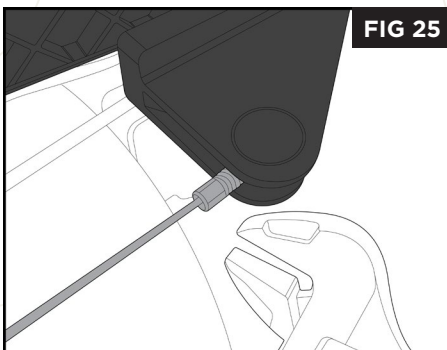

FIG 25
4. Always check rudder hardware and cables are tightened before going out on the water. Rudder cable tension can be adjusted with the barrel adjusters found at the stern of the watercraft using an adjustable wrench or a 3/16" open end wrench **(FIG 25)**.